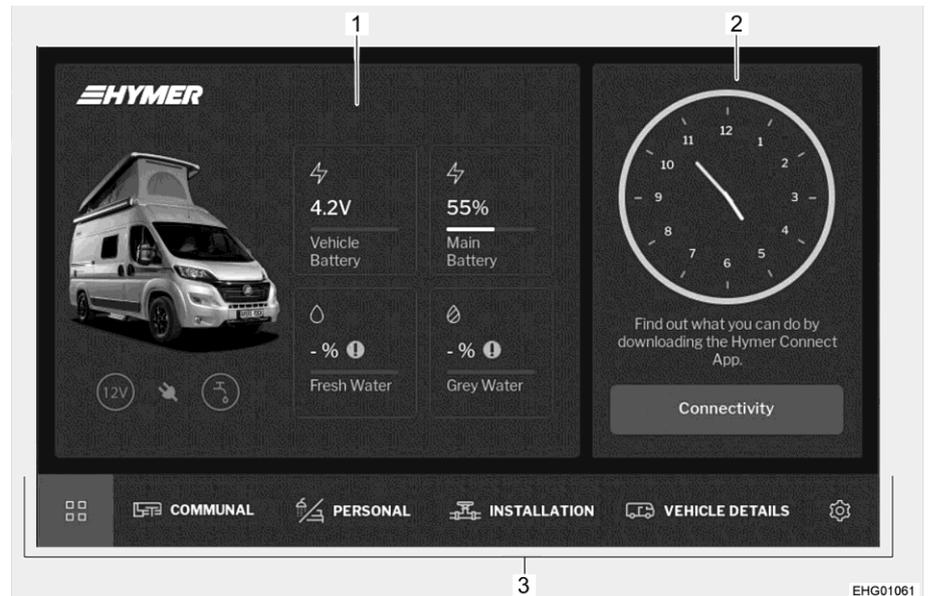

Fig. 69 7" panel, start screen
**Start screen** The start screen (Fig. 69) shows the following information: